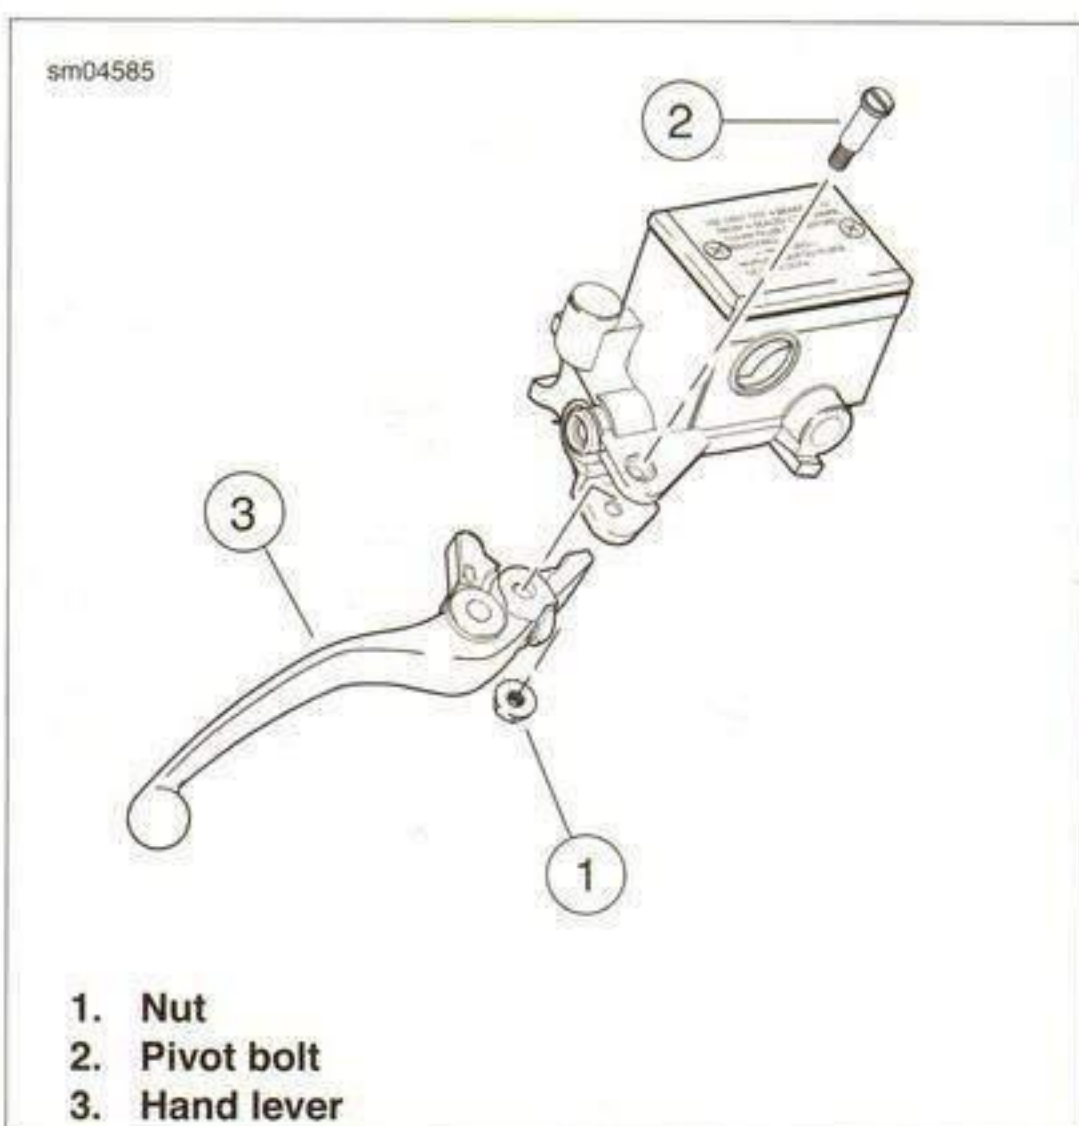

Figure 2-49. Front Brake Lever
1. See Figure 2-49. Remove pivot bolt nut (1) and pivot bolt (2) to detach the brake hand lever (3).